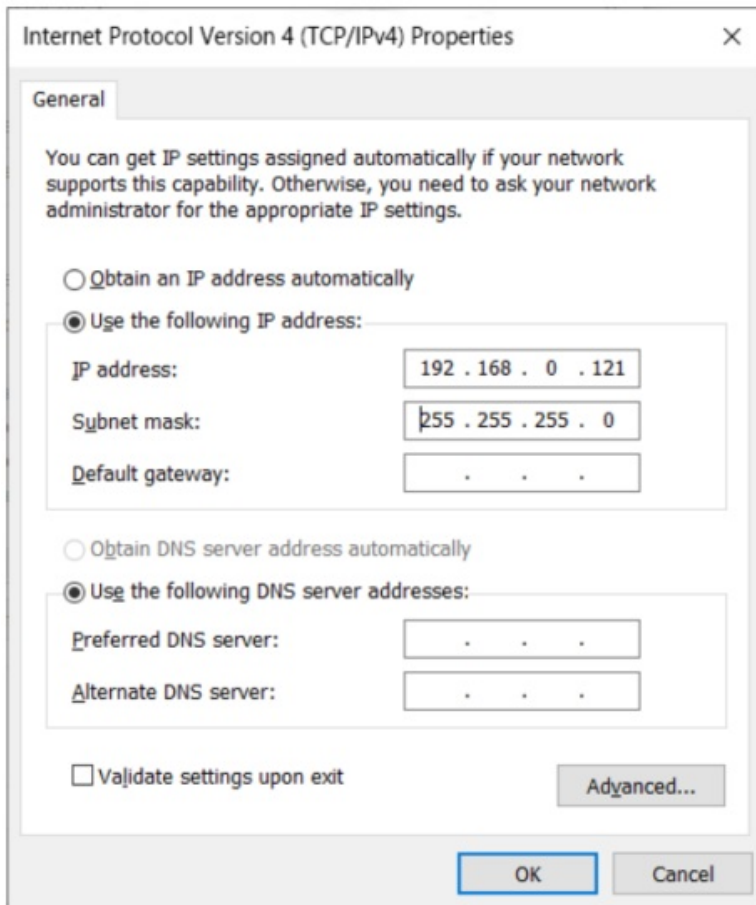

Figure 4-3.2 Fixed IP settings
2. Change the IP address of the cable network adapter to a fixed IP address, as shown in **Figure 4-3.2**